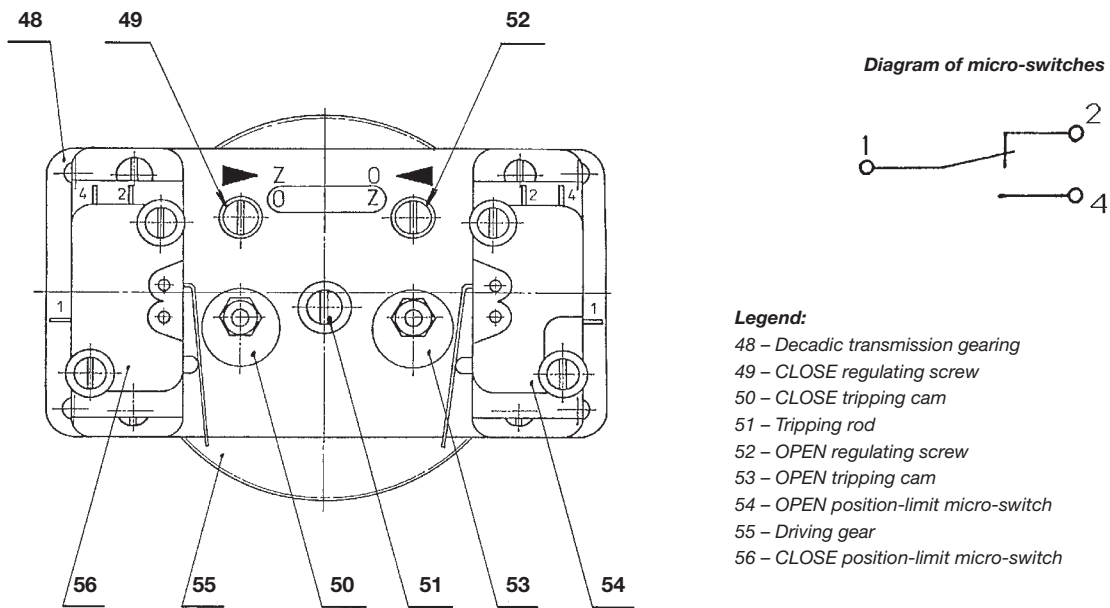

Fig. 5 - **Step-wise position-limit switching unit**
c) Position-limit switching unit (Fig. 5)
If, before readjusting, the cams are in the position shown in Fig. 5 or the cam has already depressed the micro-switch button, the following procedure of adjusting is preferred:
In adjusting the position transmitter proceed as follows: In the CLOSE position of the output shaft shift the geared rocker 67 (Fig. 8) out from engagement with the pinion 59 (Fig. 8) by pressing it down in the transmitter direction. Turn the rocker in the clockwise direction to the stop formed by a post under the signalling unit. Then, bring the rocker back into engagement with the pinion 59 again. The transmitter pointer should indicate 0°. If this is not the case, move the rocker 67 back from the stop and depress the rocker 70. In this way release the transmitter pinion and set the transmitter indicator near the mark 0° on the transmitter scale so that, after bringing the rocker 70 into engagement with the transmitter pinion, their teeth engage correctly. This can be checked by carefully turning the transmitter shaft. Then, shift the rocker 67 again out of engagement and, applying an excessive force, press it to the stop (The transmitter pinion starts slipping after the transmitter indicator has reached the mark 0°. Bring the rocker 67 again into engagement with the pinion 59 (Fig. 5). In this position, the oval holes in the geared rockers are parallel with the oval hole in the basic control plate 22 (Fig. 2). Now, the transmitter is adjusted for the position